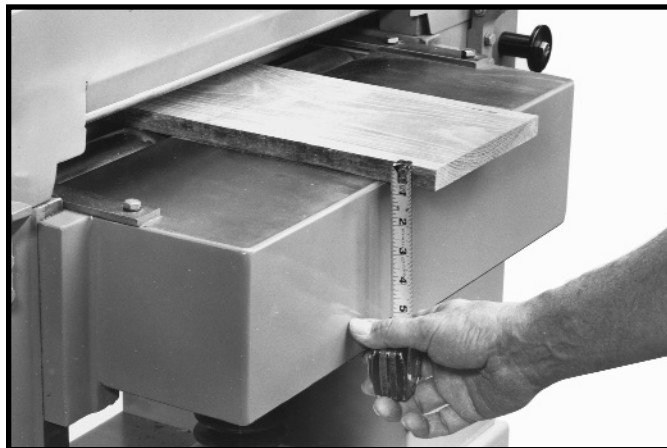
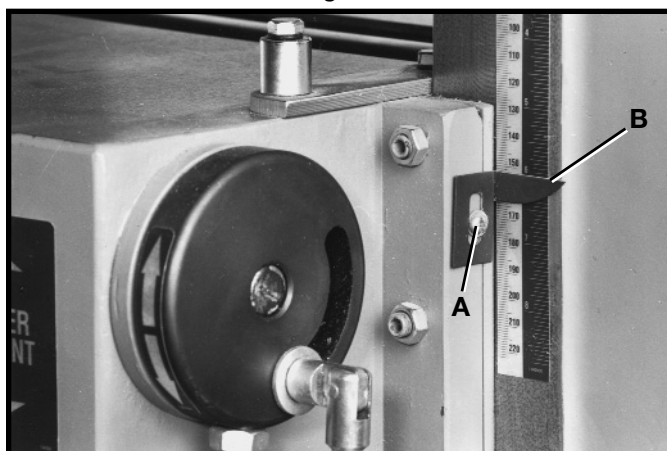

Fig. 52
Fig. 53
- Measure the thickness of the planed end of the stock as shown in Fig. 52. If an adjustment is necessary, loosen screw (A) Fig. 53, adjust pointer (B) and retighten screw (A).